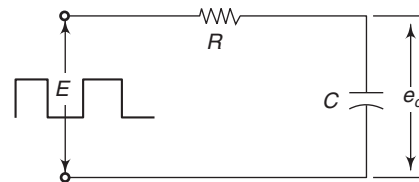
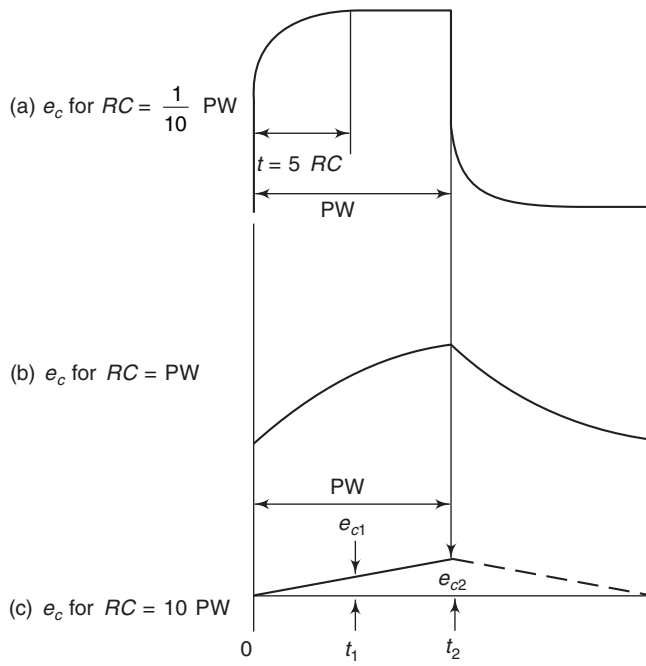

Fig. 8.6 Integrating Circuit with Square Wave Input.
Fig. 8.7 Output Waveforms for Various RC and PW Relationships. The Circuit behaves as an Integrator only when RC is Equal to or Greater than 10 PW.
Integration is a *summation* of area. An integrator produces an output voltage which is proportional to the area enclosed by the input waveform. Figure 8.6 shows an RC circuit with a square wave input and with the output voltage taken across the *capacitor*. The shape of the output (capacitor) voltage is dependent upon the relationship between the time constant (RC) and the pulse width (PW).
In this case, the output voltage *roughly approximates* the square wave input. If RC is made smaller than one-tenth of PW , then the output even closely resembles the square wave input. This is shown in Fig. 8.7(a).
2. When $RC = PW$, the settled waveform has an amplitude which is less than 63.2% of the input voltage after time $t = RC$. Under these conditions, *the waveform of the capacitor voltage begins to approach a triangular shape.* This is shown in Fig. 8.7(b).
3. When $RC \geq 10 PW$, the RC circuit, as arranged in Fig. 8.6 is referred to as an *integrator*. The capacitor voltage waveform is shown in Fig. 8.7(c). To understand how the circuit integrates, it is necessary to calculate the voltage output levels in relation to time.
This result shows that after time t_1 , $e_{c1} \approx 0.05 E$, and after time $t_2 = 2t_1$, $e_{c2} = 0.1 E = 2e_{c1}$. The capacitor voltage increases almost linearly. It is observed from Fig. 8.7(c) that